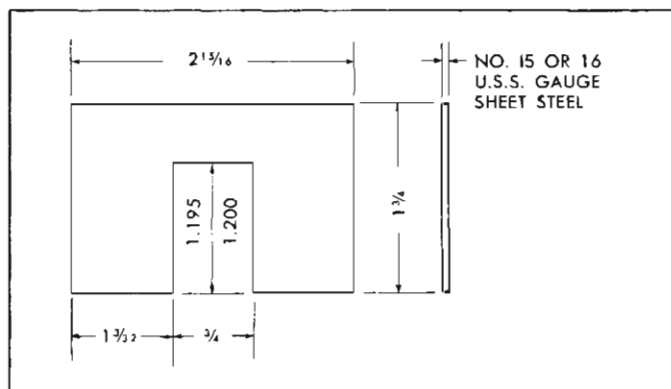

Fig. 10—Push Rod Gauge
**NOTE:** If push rod height adjustment gauge is not available, the required dimensions for fabrication are given in Figure 10.